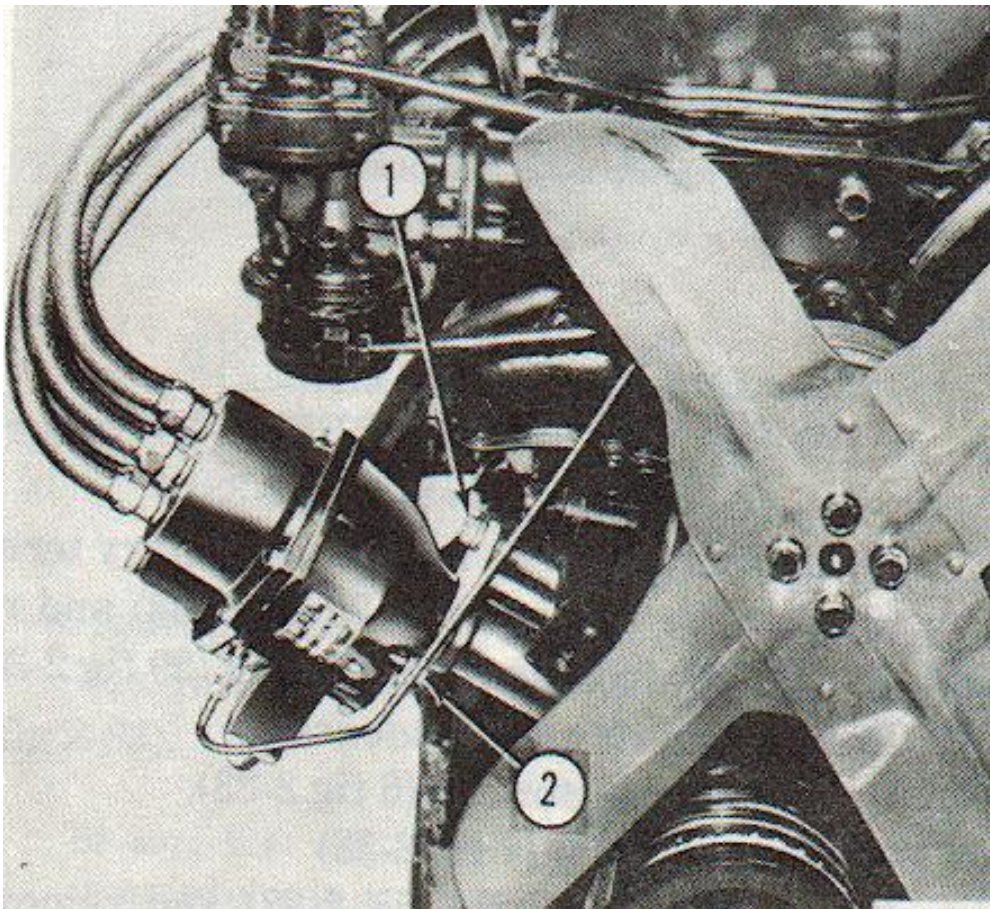

Figure 2-31. ignitor adjusting nut.
- (1) Loosen ignitor adjusting nut (2 fig 2-31).
- (2) Install timing light adapter on number 1 spark plug and connect spark plug cable to adapter.
- (3) Connect timing light leads in accordance with timing light manufacturer s recommendation.
(8) When timing is adjusted to 5 degrees BTC advance, tighten ignitor adjusting nut. Refer to figure 2-31.
(9) Recheck timing to insure that it was not disturbed when nut was tightened.
(10) While observing timing line with timing light, increase engine speed. Timing line should appear to move in advance direction indicating proper operation of centrifugal advance mechanism.